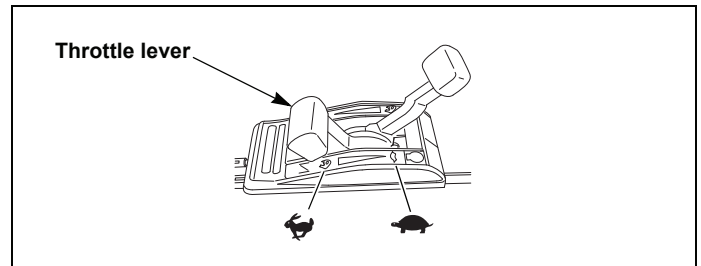

Fig. 4-25
3. Set the throttle lever to the "FAST" position. Fig. 4-25